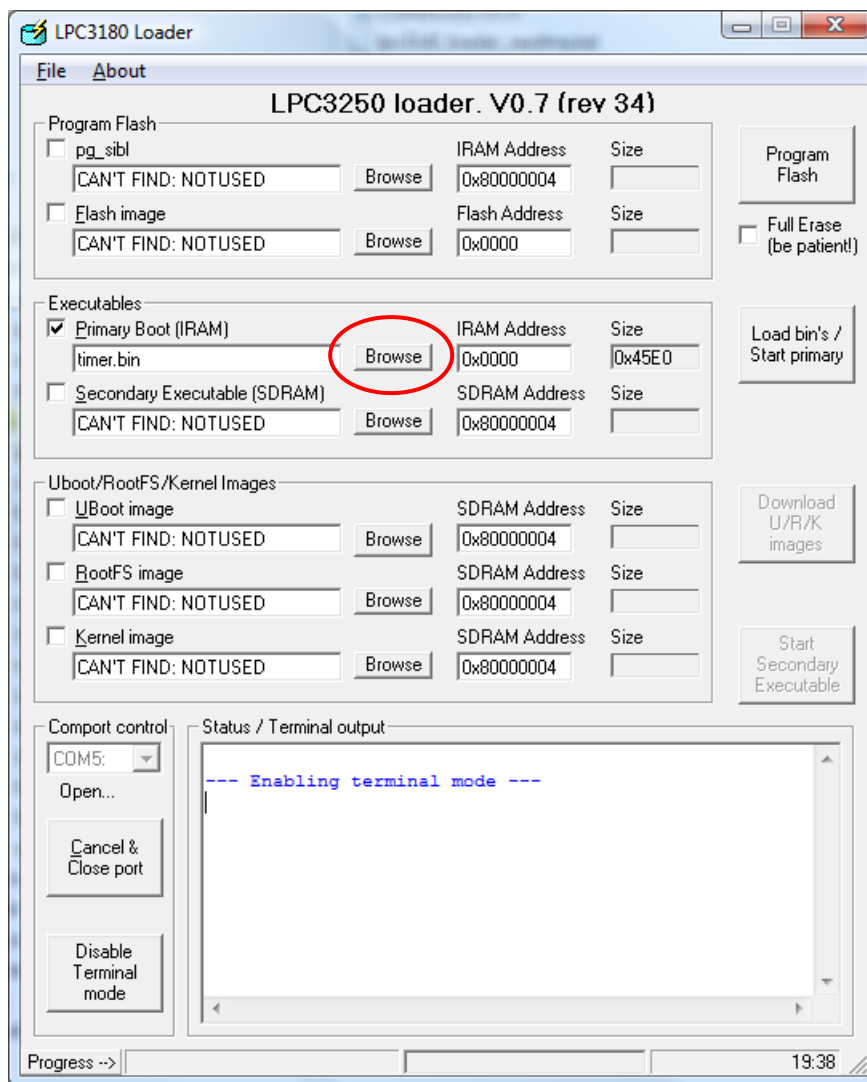

Figure 20 – LPC3250 loader application
1. Start the LPC3250 loader application, see Figure 20.